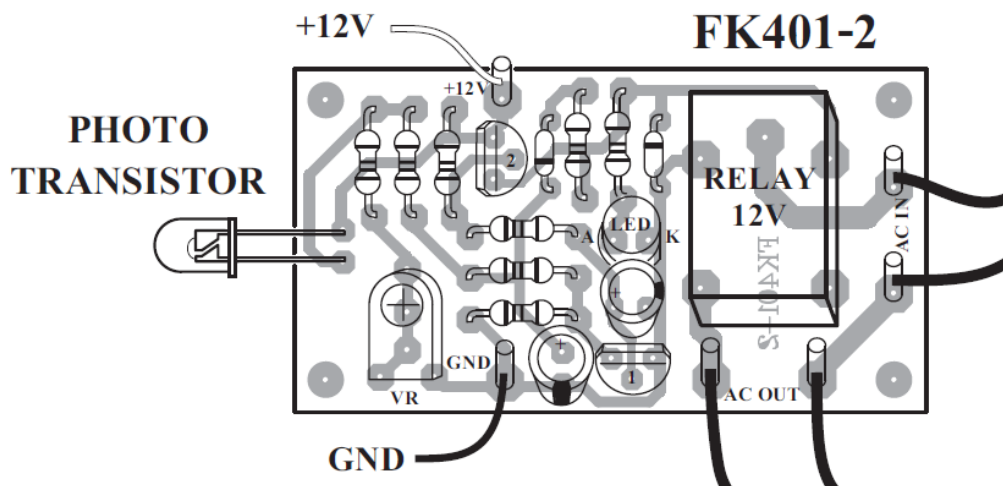

Fig 4 Attaching the wires
- *Careful study of Fig 4 below will show the flat side and its orientation!*
‘Tin’ each Connection post with solder. (For more information on “tinning”, please refer to our separate document “Towards Better Soldering”). The power supply connection can be soldered into place by ‘tinning’ the leads and ensuring the black wire is attached to the ‘ground’ (G) or negative (-) pole and the red wire to the positive (+). Finally the four remaining connection posts can be tinned and connected to the load as required. (See *Fig 4* for attaching the wires).